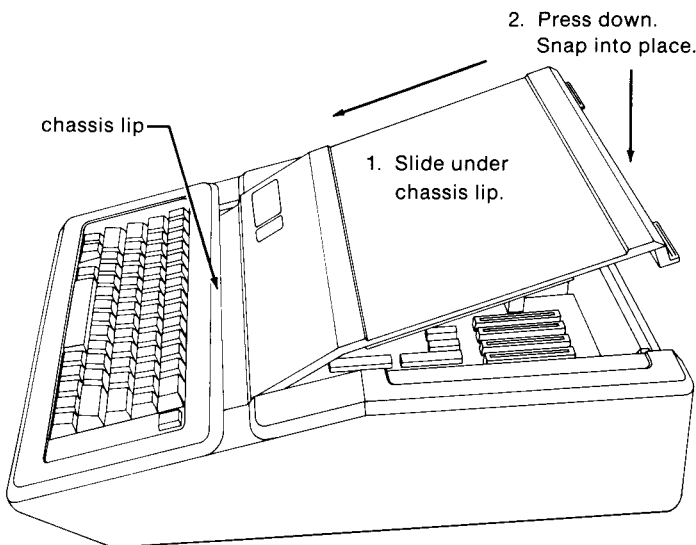

Figure 2.6. Top Cover Replacement
14. Slide the forward edge of the cover under the forward lip of the chassis, as shown in Figure 2.6.